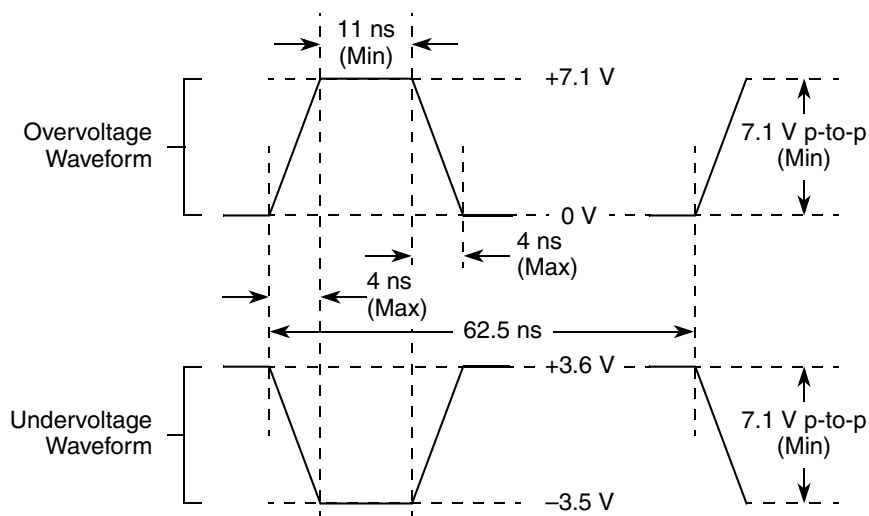

Figure 3. Maximum AC Waveforms on PCI interface for 3.3-V Signaling
- OV_{IN} on the PCI interface can overshoot/undershoot according to the PCI Electrical Specification for 3.3-V operation, as shown in Figure 3.
Figure 3 shows the undershoot and overshoot voltage of the PCI interface of the MPC8343EA for the 3.3-V signals, respectively.